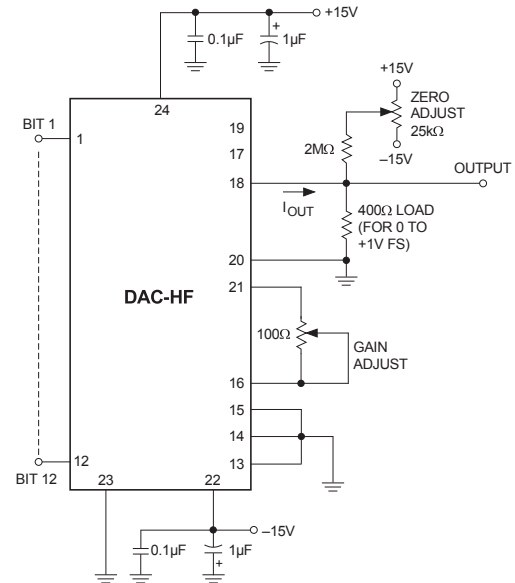

Figure 2. DAC-HF Calibration Circuit
1. Connect the converter as shown in Figure 2.